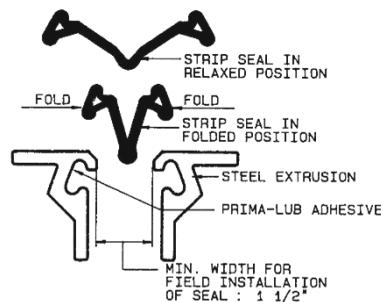

FIGURE 1
- Inspect joint cavities for any debris or header material and remove. (FIGURE 1)
- Roll out seal along joint line. Seal is marked Top (FIGURE 1)
- Apply Wabo®PrimaLub to the lug cavity with a paint brush. (FIGURE 1)